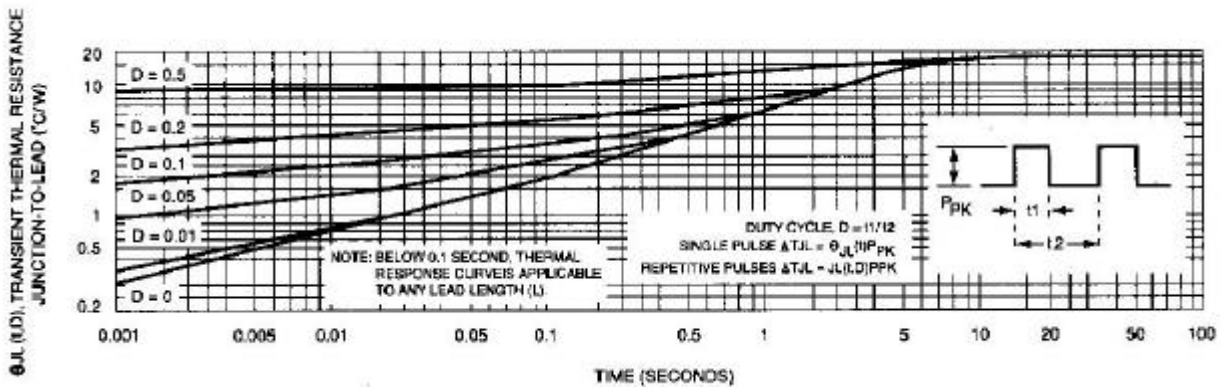
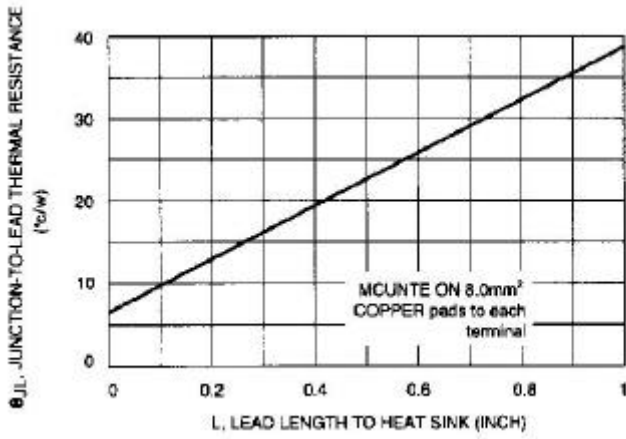
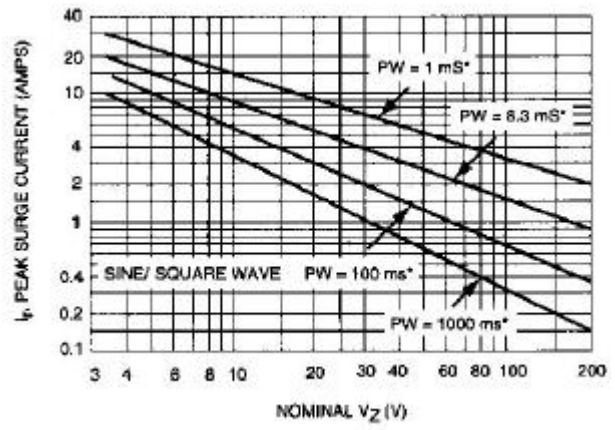
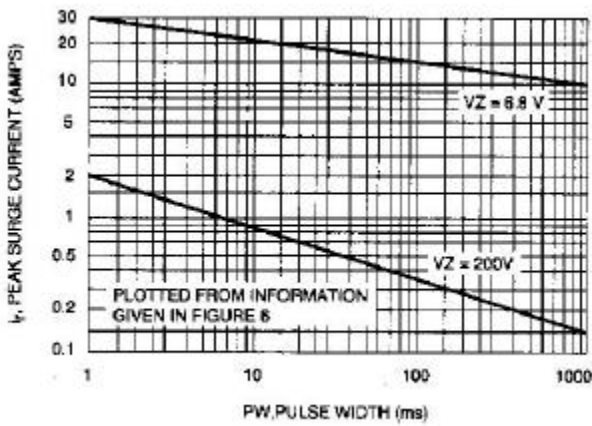

Fig. 3-TYPICAL THERMAL RESPONSE
Fig. 4-TYPICAL THERMAL RESISTANCE
Fig. 5-MAXIMUM NON-REPETITIVE SURGE CURRENT VERSUS NOMINAL ZENER VOLTAGE(SEE NOTE 3)
Fig. 6-PEAK SURGE CURRENT VERSUS PULSE WIDTH(SEE NOTE 3)
3. SURGE CURRENT (I_r) - Surge current is specified as the maximum allowable peak, non-recurrent square-wave current with a pulse width, PW, of 8.3 ms. The data given in Figure 5 may be used to find the maximum surge current for a square wave of any pulse width between 1 ms and 1000ms by plotting the applicable points on logarithmic paper. Examples of this, using the 6.8v and 200V zeners, are shown in Figure 6. Mounting contact located as specified in Note 3. ($T_A=25$).
T_{JL} is the increase in junction temperature above the lead temperature and may be found from Figure 3 for a train of power pulses or from Figure 4 for dc power.
Data of Figure 3 should not be used to compute surge capability. Surge limitations are given in Figure 5. They are lower than would be expected by considering only junction temperature, as current crowding effects cause temperatures to be extremely high in small spots resulting in device degradation should the limits of Figure 5 be exceeded.